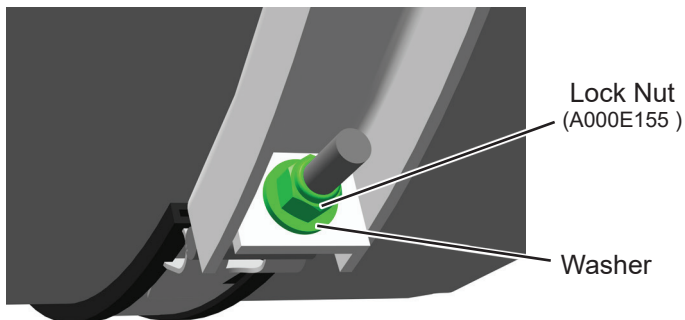

Figure 8 - Bottom Mounting Hardware
12. Final tighten bottom tank strap T-bolt lock nuts (A000E155) to 20 ft. lbs. See Figure 8.